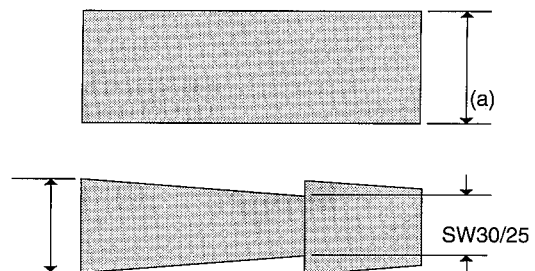

Fig.3-4
3.4 Guide Roller (O) and Guide (I) Heights Adjustment (Adjustment After Replacing Cylinder) (Fig. 3-4 - 3-6)
- (2) Connect an oscilloscope to TP3 and press the playback button.
- (3) Synchronize the oscilloscope with TP1 (SW30/25).
- (4) Set the oscilloscope probe to (+).
Guide (I) (Fig. 3-4)
- (5) Holding down SW2 on the ATF-R jig, perform the following steps.
- (6) Adjust the height of guide (I) so that the waveform is flat.
- (7) Adjust the voltage control on the oscilloscope so that amplitude (a) of the waveform is set to 4 graduations.
- (8) Set SW1 on the ATF-R jig to ON.
- (9) Turn RT1 on the ATF-R jig, and make sure that the waveform changes while it is flat. If this cannot be confirmed, fine adjust the height of guide (I), to satisfy the condition.